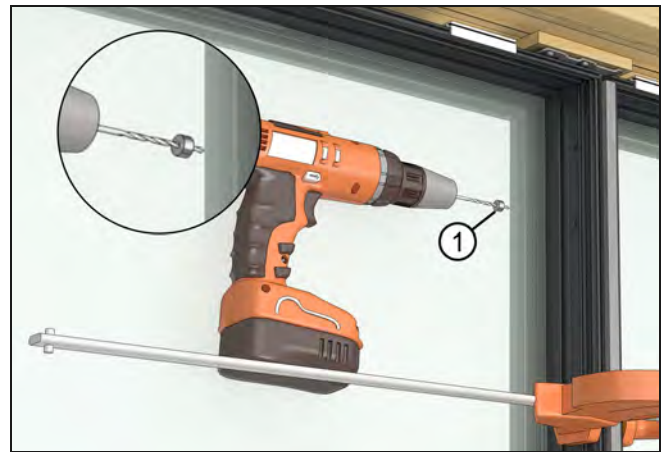

Figure 25
15. Using a drill with a stop collar use the installation holes as a guide and bore into the steel with a #23 drill bit. Note the depth of the stop collar on Figure 25 for different products.